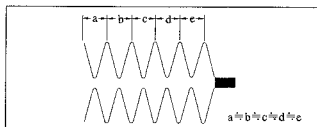

Fig. 43
5-5. CUE AND REV WAVEFORM CHECK (Fig. 43)
- 1) Play back the alignment tape for tracking adjustment and set the REV mode. Confirm that waveform peaks maintain a constant pitch of 5 seconds or more (Fig. 43). In case pitch is not constant, perform section 5-2.Tracking Fine Adjustment and section 5-4. No.7 Guide Adjustment.
- 2) Set the CUE mode. Confirm that waveform peaks still maintain a constant pitch of 5 seconds or more (Fig. 43). Otherwise, perform section 5-2.Tracking Fine Adjustment.